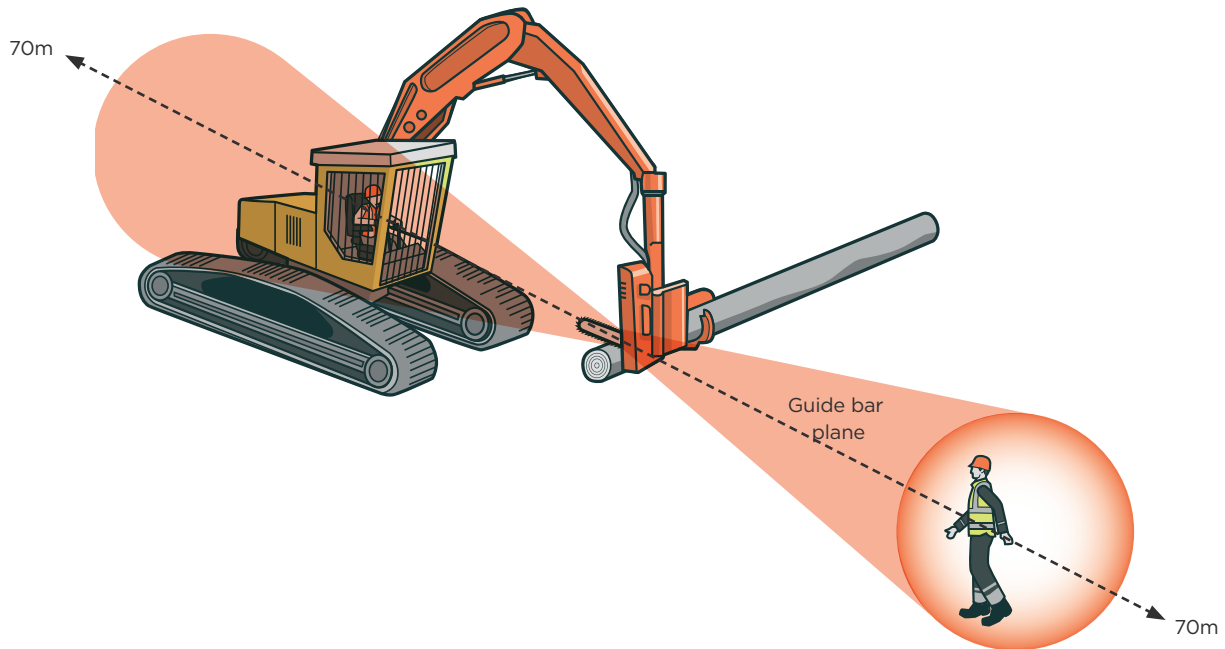

FIGURE 31: Minimum 70m exclusion zone to protect against chain shot injury
- If a mechanised processor is operating, make sure that there is at least a 70m exclusion zone to protect against chain shot injury (Figure 31). Consider the angling and placement of the mechanised processor to manage risk.
- have defined separation distances to protect ground workers from chain shot injury. Have a minimum 70m exclusion zone unless effective protective barriers are used (Figure 31)